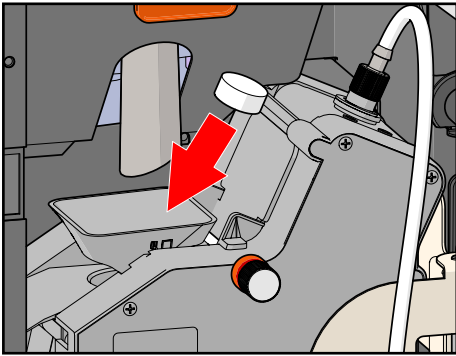

Figure 44.
15. When you are two-thirds of the way through the cleaning cycle, you will hear a beep and see a prompt to insert a cleaning tablet. Open the door and throw the cleaning tablet into the top of the espresso brewer (see Figure 44). Close the door and follow the instructions on the screen. The cleaning cycle takes a few minutes.